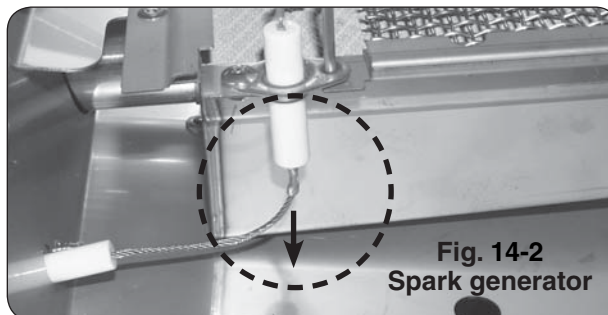

Fig. 14-2
3. Disconnect the ignitor wire from the bottom of the electrode assembly on the infrared burner (see Fig. 14-2).